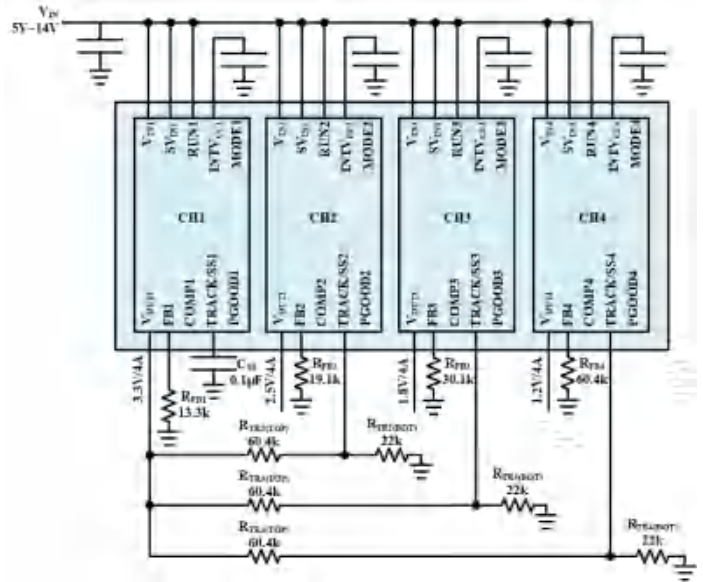

Figure 27. Output Tracking Circuit Diagram
$R_{FB(SL)}$ is the feedback resistor, and $R_{TR(TOP)}/R_{TR(BOT)}$ represents the resistor divider on the TRACK/SS pin of the slave regulator, as shown in Figure 27. According to the formula above, the master regulator's output slope (MR) and the slave regulator's output slope (SR), in units of output voltage/time, are determined by: